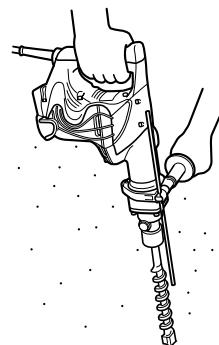

Fig. 10
- (1) Loosen the side handle and insert the straight portion of the stopper into the handle bolt hole from the front cover.
- (2) Loosen the side handle, move the stopper to the specified position and rotate the grip of the side handle clockwise to fix the stopper.
6. Warming up (Fig. 10)